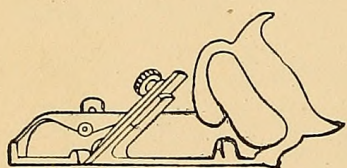

FIG. 22. — Rabbet-plane.
**Rabbet-plane** (Fig. 22), useful in cabinet making for *rabbeting* your work (Fig. 75, page 59—the plane-iron, or *cutter*, can be adjusted to any desired width of *rabbet* up to  $1\frac{1}{2}$  inches), and the